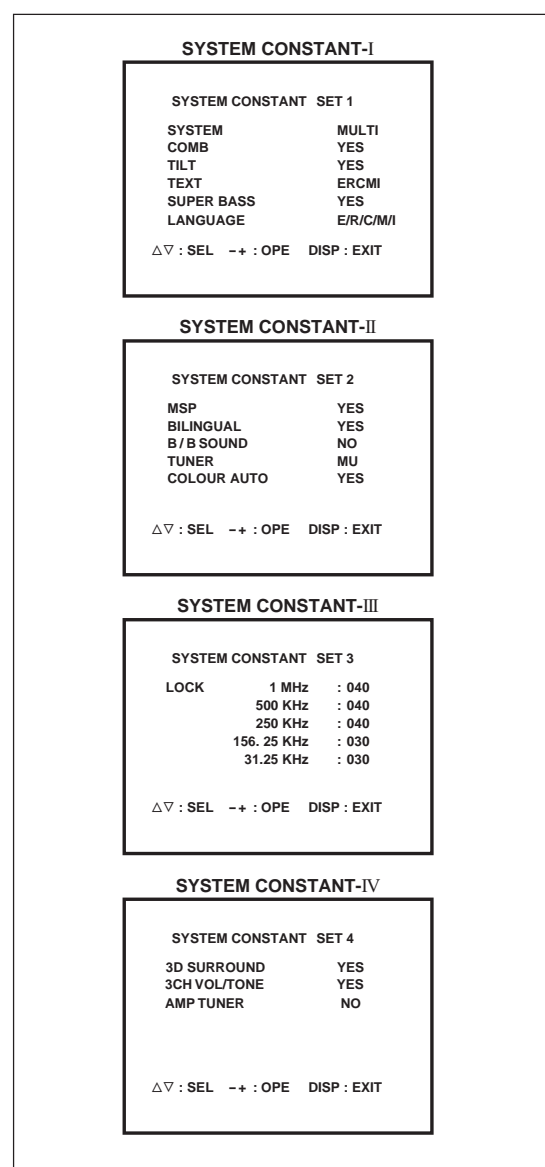

Fig. 2
1. While pushing down the 2 claws marked (E) as shown in Fig. 2 and pull out the Control base in the direction of arrow marked (F) as shown in Fig. 2, the control base can be removed.
- 2) In the SERVICE MENU, press the DISPLAY key and PICTURE MODE key simultaneously. Then, the SYSTEM CONSTANT SET screen will be displayed.(See Fig.2.)